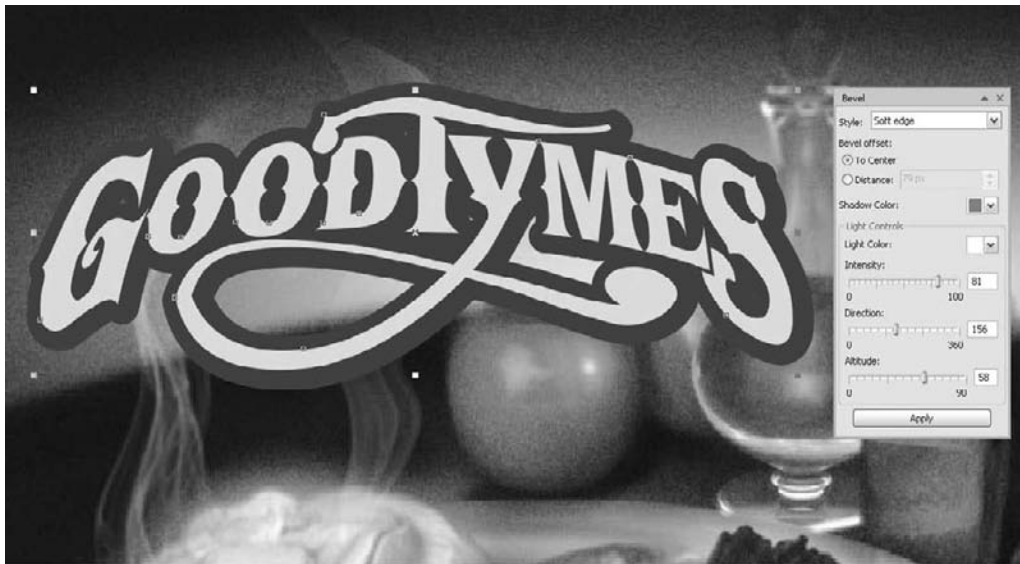

FIGURE 23-4
2. Choose Effects | Bevel to display the Bevel docker. Zoom into the logo to get a good look at the effect you'll apply and customize, as shown in Figure 23-4. Use your mouse's scroll wheel to zoom, and you can still have the Pick Tool selected.